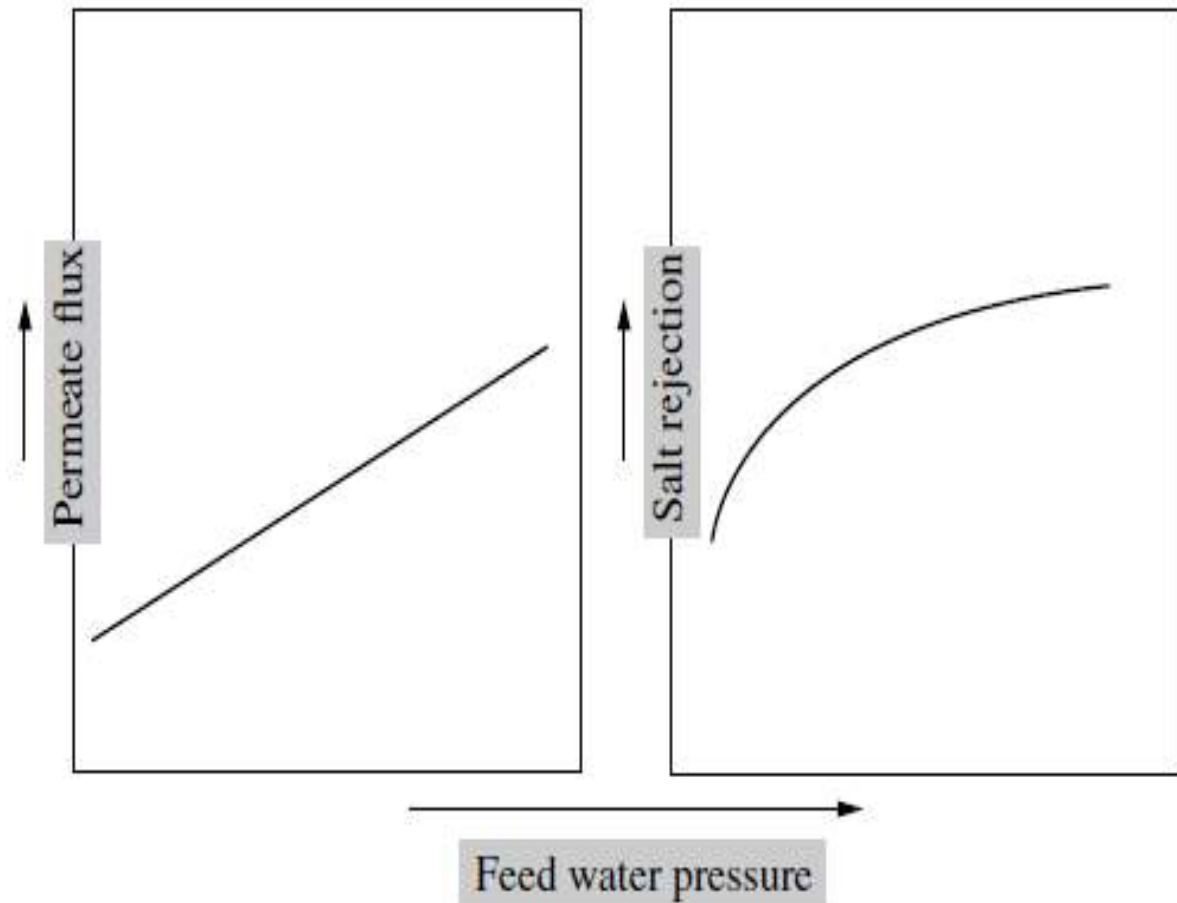

FIGURE 3.23 Effect of feed pressure on RO system performance.
- membrane flux (productivity) increases along with operating feed pressure at the same source water salinity and temperature. This occurs because the increase of feed pressure results in a proportional increase of the net driving pressure through the membrane (Fig. 3.23).